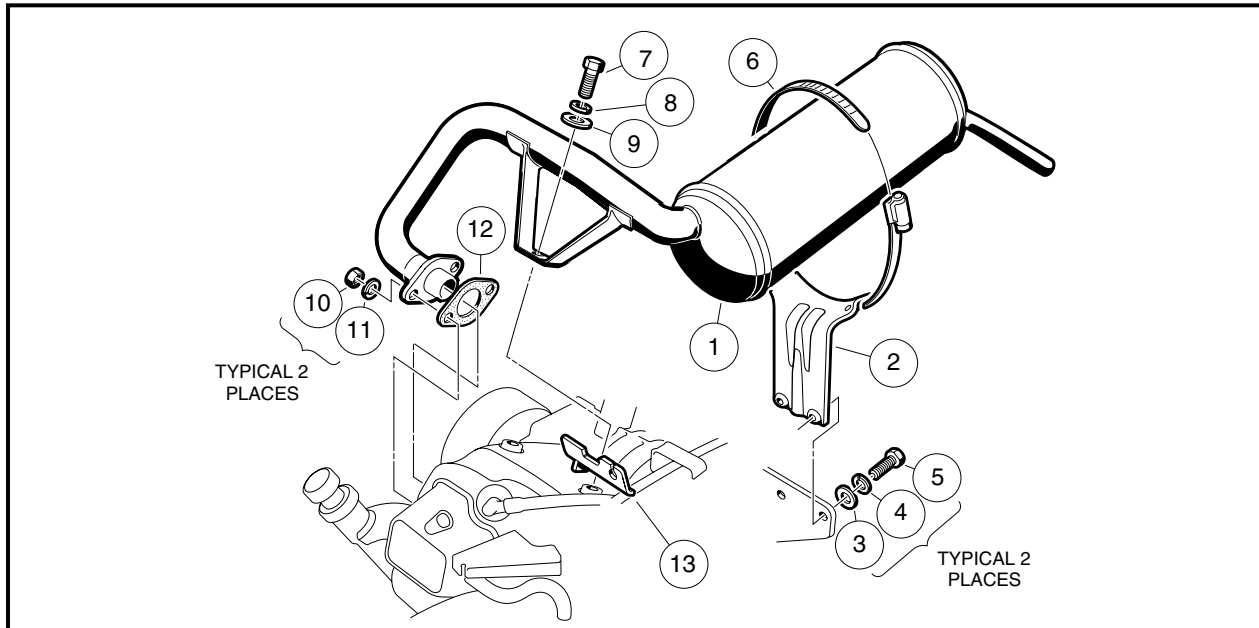

Figure 3-2 Muffler System - FE350 Engine
- 5.1. Remove the muffler clamp (6) from the muffler (1) and clamp bracket (2) (**Figure 3-2, Page 3-6**).